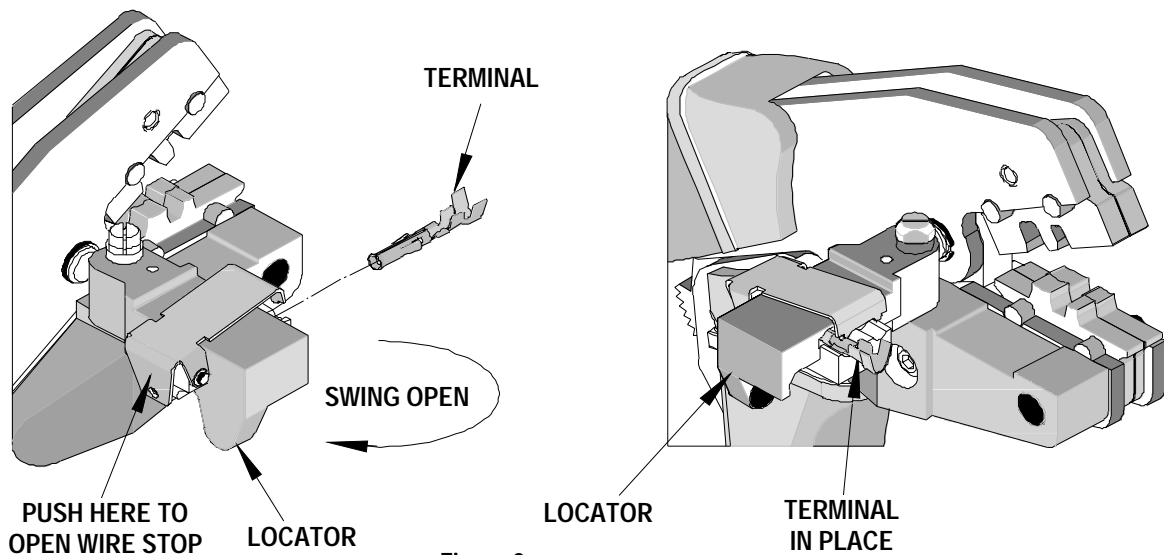

Figure 2
2. Swing the terminal locator away from the crimp tool shown in Figure 2. Some terminals with large insulation grips may interfere with the crimp tooling when swinging the locator into position. The terminal must then be loaded into the locator in the closed/crimp position.
3. When using 63811-3275 (Locator No. 1), press down on the wire stop on the locator as shown in Figure 2. Insert the proper terminal into the proper nest opening. Make sure when choosing the nest opening, it will correspond with the A or B profile on the hand tool.